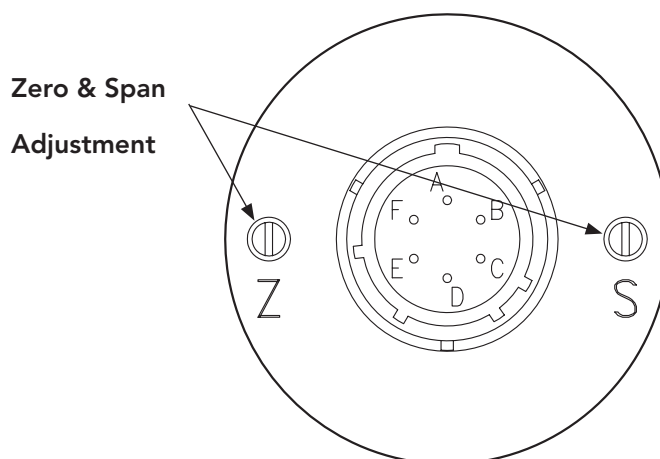

Figure 3.1
ⓘ IMPORTANT: Do not make changes to the Span adjustment (the "S" pot to the right, see Figure 3.1) as part of the zero trimming. The Span should only be changed as part of the recalibration of a gauge with a known pressure source.
- Apply full scale pressure to the pressure port and adjust the Span ("S") pot (on the right of Figure 3.1) until the full scale signal is reached.